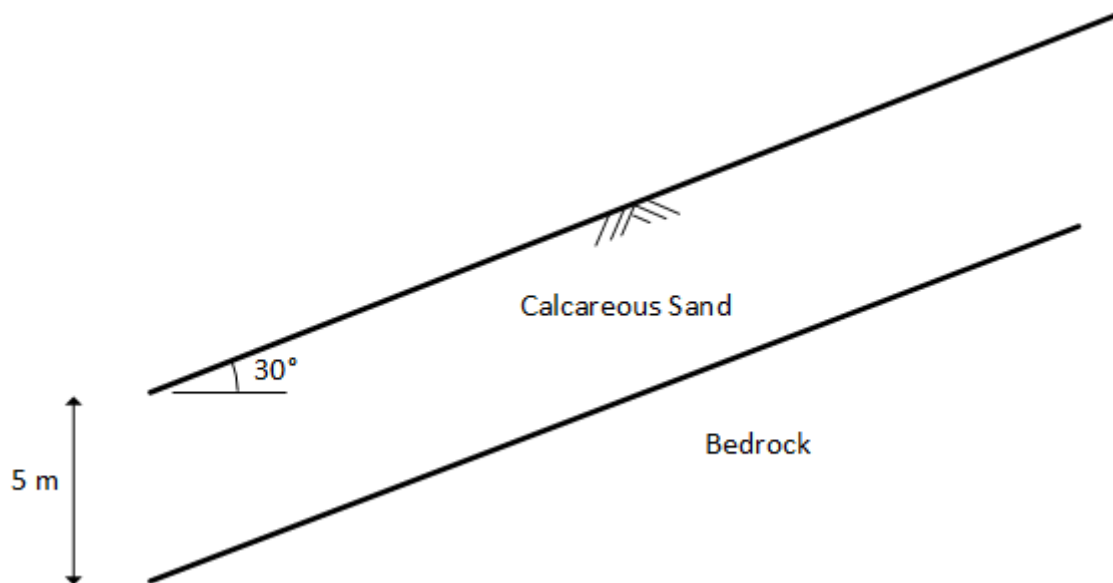

Fig. 1
- (c) An infinite slope consists of a 5 m thick layer of calcareous sand overlying impermeable bedrock as shown in Fig. 1. The slope has an angle of 30 degrees to the horizontal. The sand has a critical state friction angle of 25 degrees, $G_s = 2.6$ and maximum and minimum voids ratios of 0.95 and 0.6 respectively. The sand is compacted to a voids ratio of 0.7. If the slope is dry, discuss the stability of the slope by considering the strength of the soil. [30%]